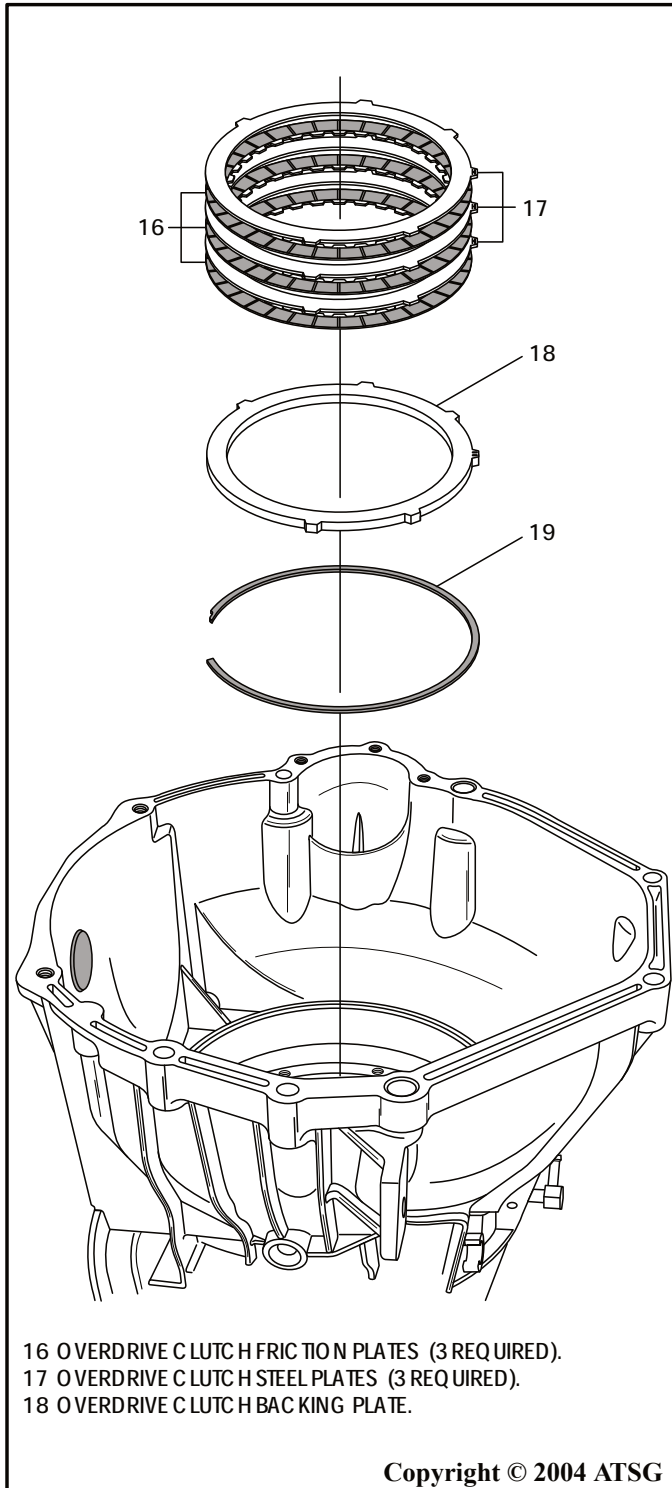

Figure 174
21. Install the overdrive backing plate snap ring, as shown in Figure 174, with the opening in the six o'clock position in the case.
22. Install the overdrive clutch backing plate into the case, as shown in Figure 174.
23. Install the overdrive clutch plates, as shown in Figure 174, beginning with a friction plate and alternating with steel plates.